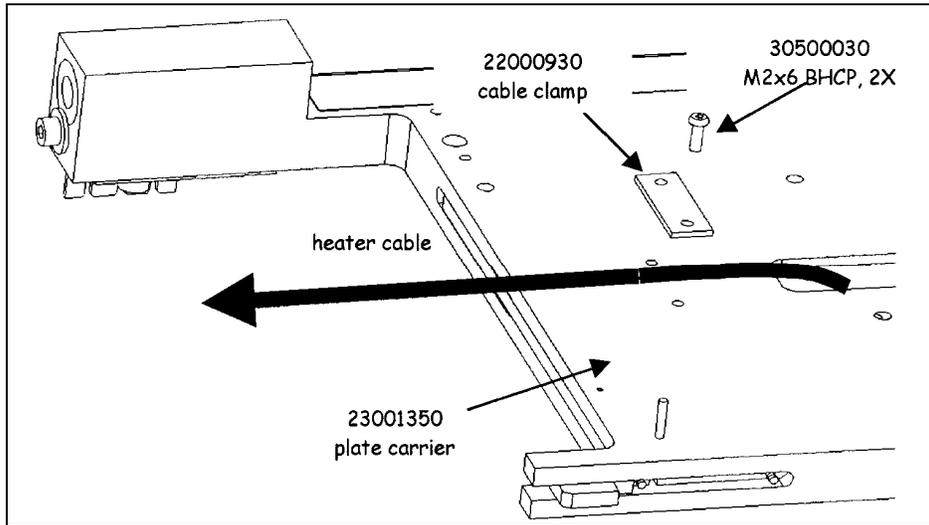

Figure 9-23 Routing the Heater Cable
- Slide the heater cable through the slot in the plate carrier (Figure 9-23).
- Secure the heater cable to the plate carrier by sandwiching two heater wire clamps (22000930), one below the wire and one above the wire, using two M2x6 button head screws and Loctite 222 (Figure 9-23).